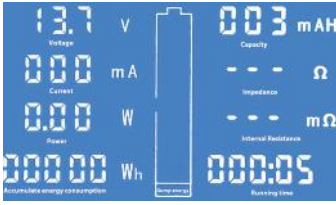
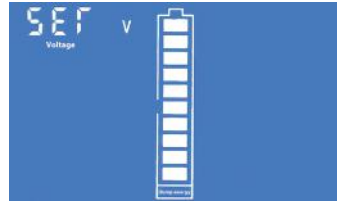
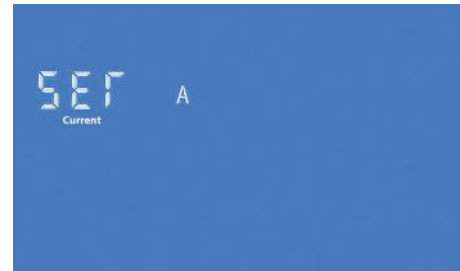

Figure 1: The normal display interface
Figure 2: The voltage setting interface
Figure 7: Current range setting interface
Step 1: In the normal display interface (like fig. 1), long press the button until the LCD screen displays the interface like fig. 2, then release the button
Step 1: In the normal display interface, long press of the button until the LCD shows the interface of Figure 2, then release the button, short press of the button again switch to the interface to Figure 7, it indicates that this state is the current range setting state.
Step 1: In the normal display interface, long press of the button until the LCD shows the interface of Figure 2, then release the button, short press of the button again will switch to the interface to Figure 9, it indicates that this state is the clearing energy setting state.
Step 1: In the normal display interface, long press of the button until the LCD shows the interface of Figure 2, then release the button, short press of the button again switch to the interface to Figure 10, it indicates that this state is the clearing capacity setting state.
Step 1: In the normal display interface, long press of the button until the LCD shows the interface of Figure 2, then release the button, short press of the button again to switch to the interface to Figure 11, it indicates that this state is the clearing running time setting state.